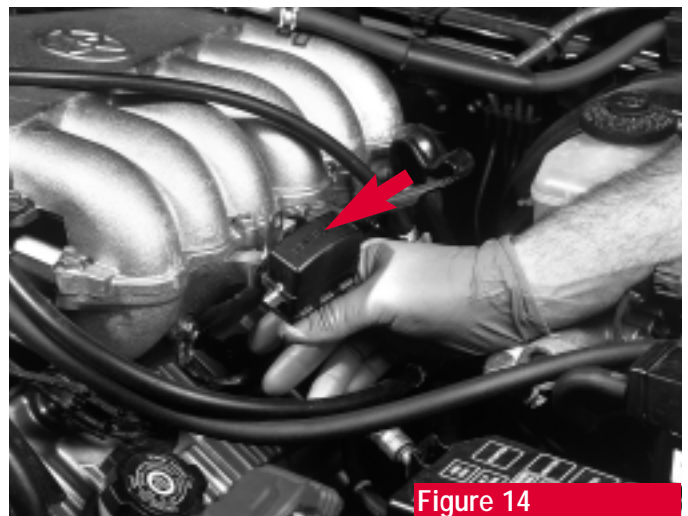

Figure 14
17. At the driver's side of the engine, remove the diagnostic plug from its mounting bracket (**see arrow, figure 14**) and set it aside. Remove the bolt and bracket that holds the diagnostic connector to the stock manifold and save for reassembly. Remove the ground wire and move it to one side.